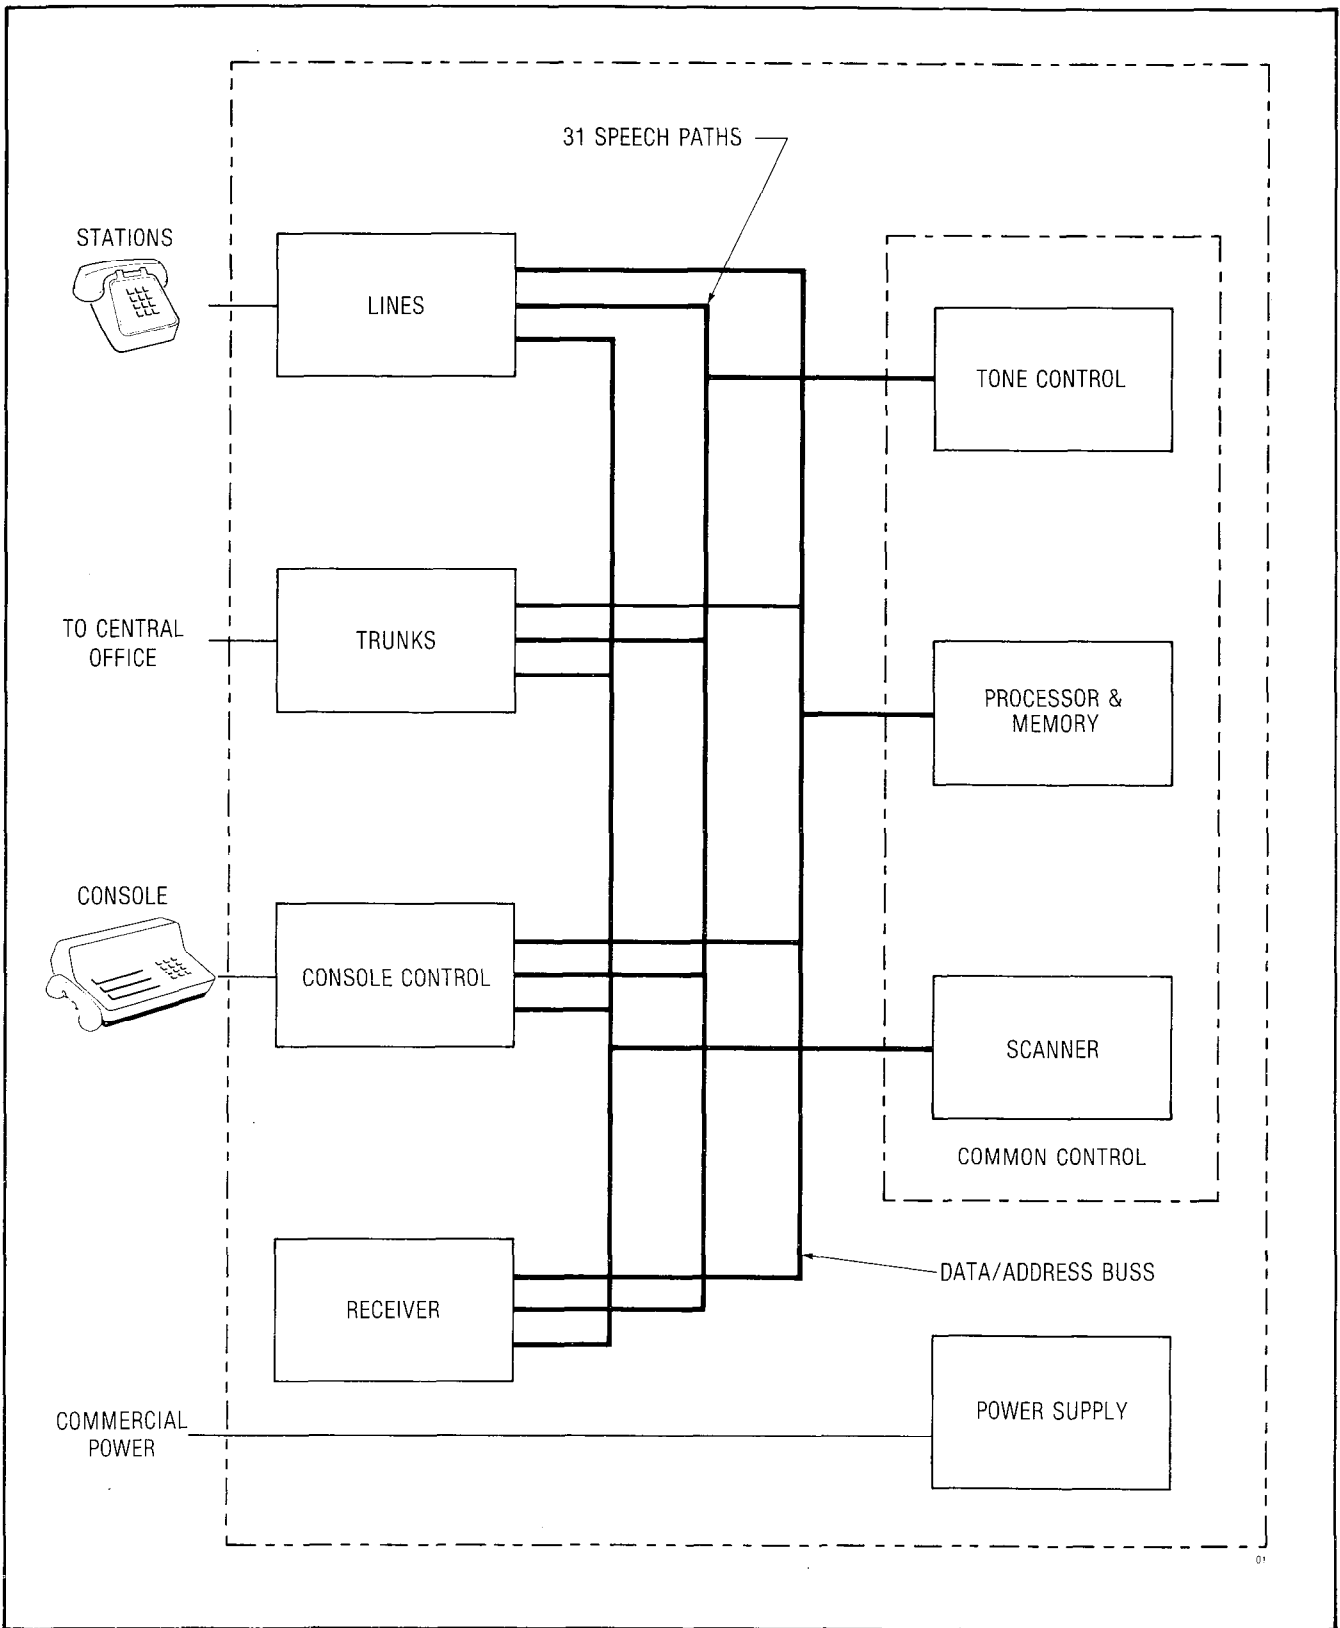

Fig. 3-1 SX-200 Block Diagram
3.01 The SX-200 is a solid-state PABX employing space division switching and microprocessor control of call processing. A block diagram of the PABX is shown in Fig. 3-1.